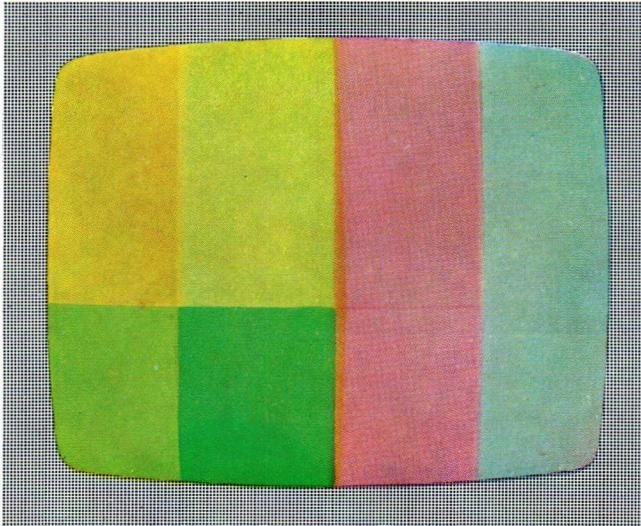

Fig. VII-20. Incorrect subcarrier phase to the (R-Y) demodulator
3. ● A colour difference between the upper and lower parts of bar 2 ( $(R-Y) = 0$ ) indicates an incorrect subcarrier phase to the (R-Y) demodulator. See Fig. VII-20. Readjust until the colour difference has been eliminated.